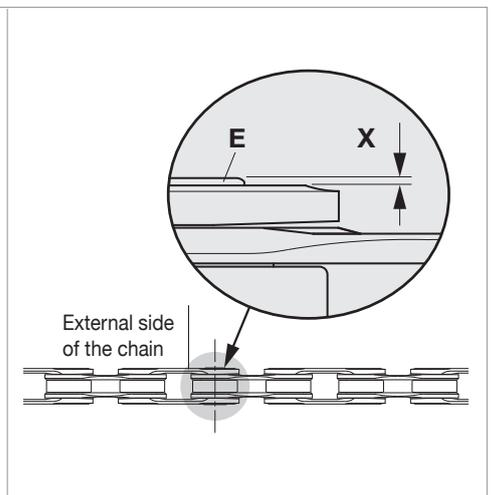

Fig.20
- The slight protrusion (X) (towards the external side of the chain) of the small pin (E) from the link (**Fig. 20**) is entirely normal and does not obstruct normal chain movement.